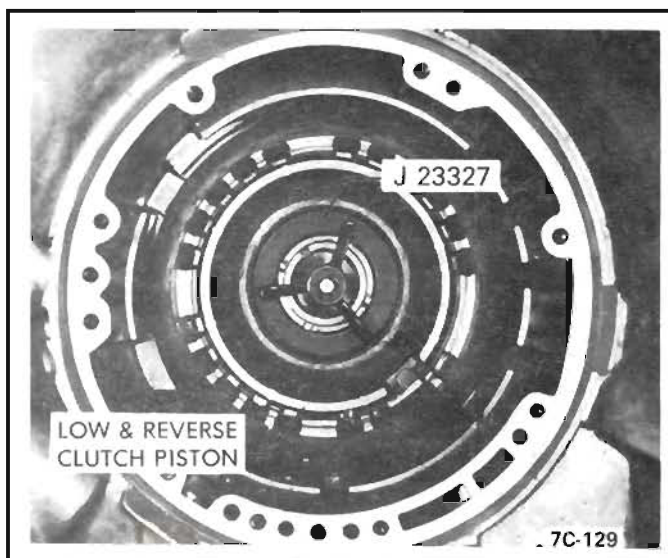

Figure 41 Low and Reverse Piston Snap Ring Removal
1. Using Tool J-23327 compress low and reverse clutch piston spring retainer and remove piston retaining ring and spring retainer with springs. See Figure 41.